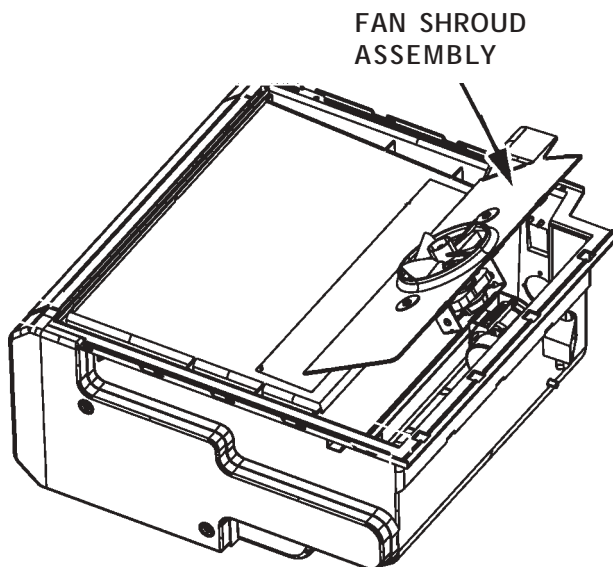

Figure 2-8
- Carefully remove the fan shroud assembly. (See Figure 2-8)